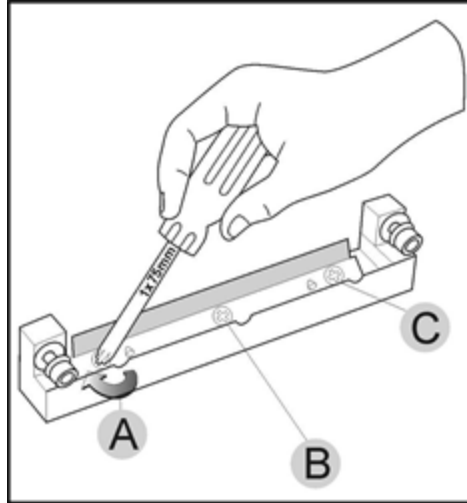

Figure 4-58 Tightening the roller scraper screws
- Tighten the screws in the order shown in Figure 4-58.